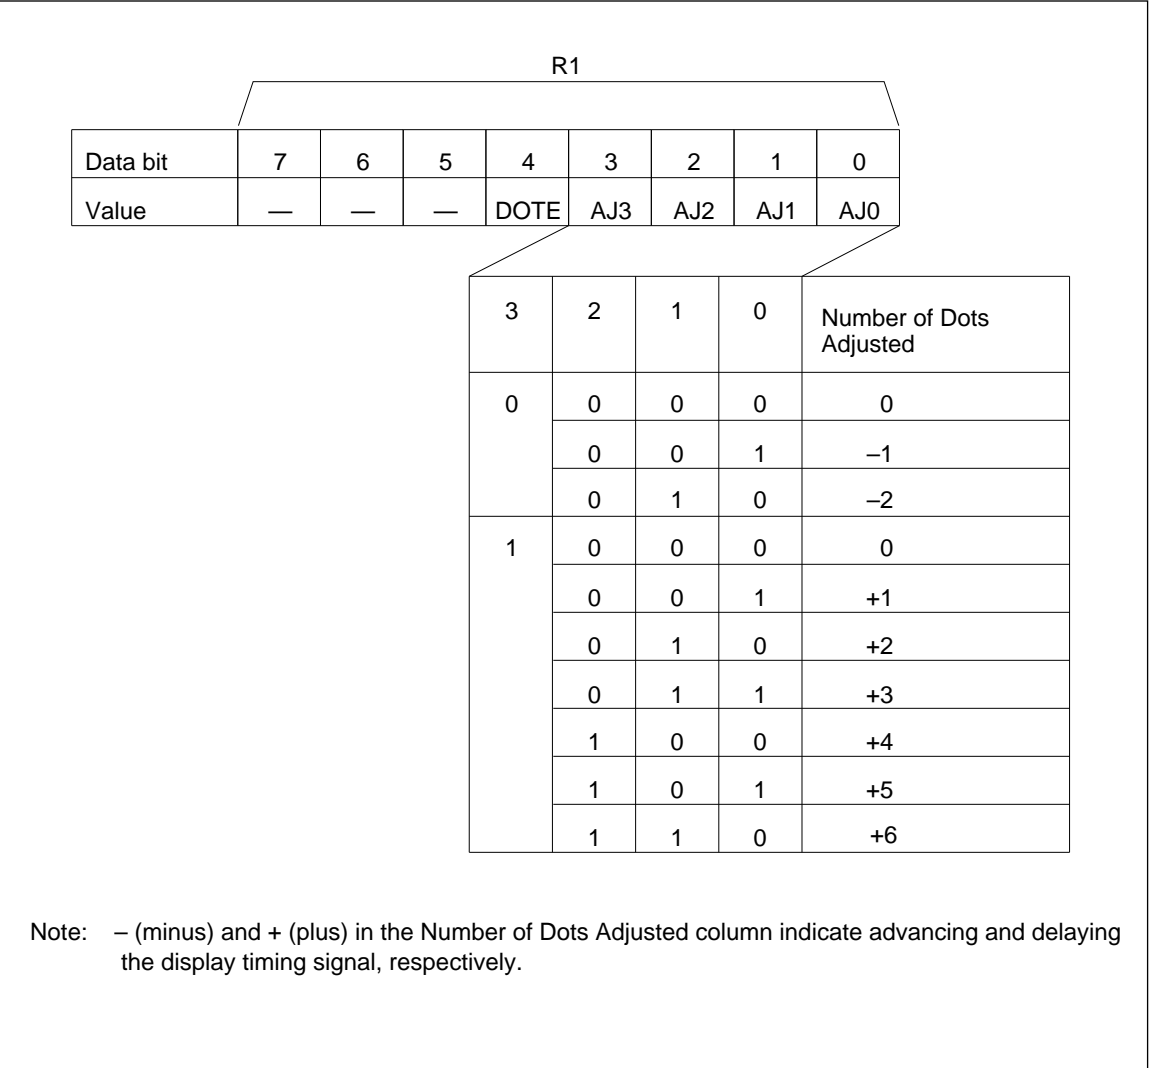

Figure 19 Input Timing Control Register
- Input Timing Control Register:** The input timing control register (figure 19) has five valid bits, having two different functions.